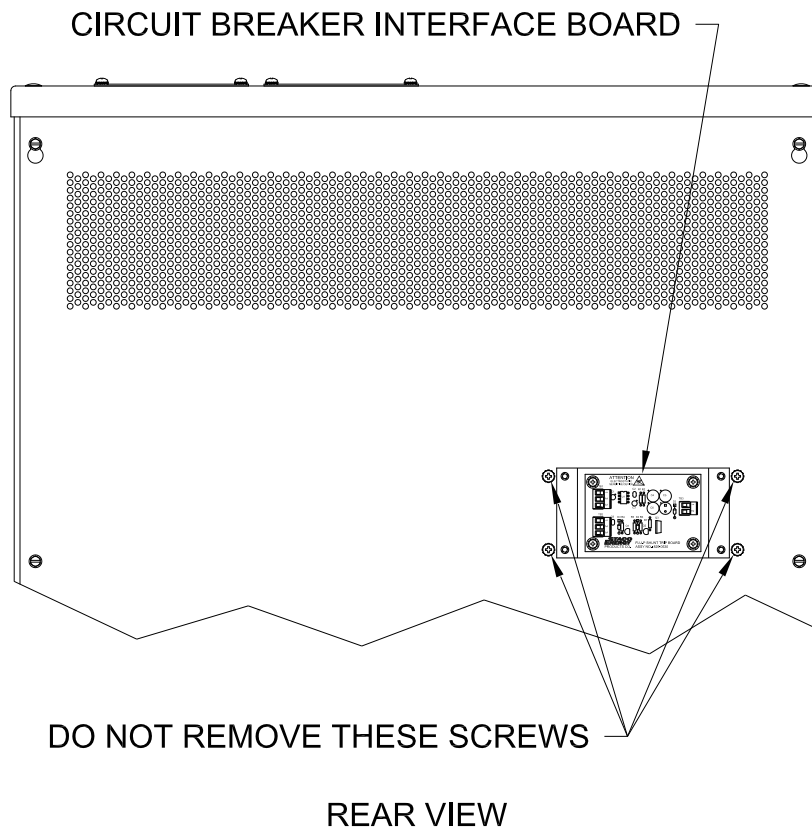

Figure 7 - Circuit Breaker Interface Board Assembly Location
Figure 7 shows the location of the circuit breaker interface terminal blocks in the Battery Cabinet. To access the terminal blocks, remove the cover by removing the four (4) screws attaching it to the cabinet. Do not remove the four (4) outer screws next to the cover mounting screws.